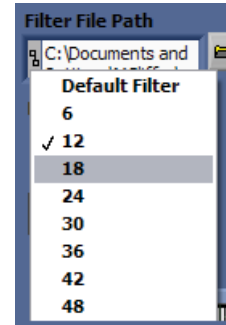

Figure 13. Number of Coefficients
1. Select the number of coefficients for download—this is half the filter length. Therefore, for example, for a 24 tap filter, select 12 from the drop-down selection shown in Figure 13.